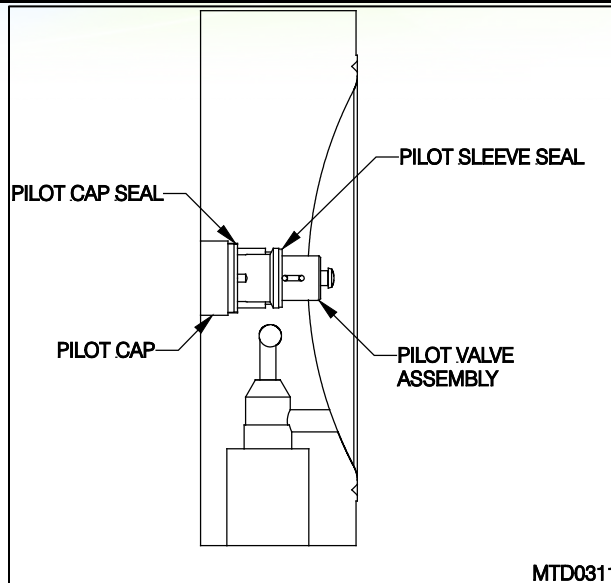

Figure 4-3
- Thread the pilot valve assembly into the pilot bore of the head as shown in Figure 4-3. Tighten to 25 in-lbs. Do not overtighten.